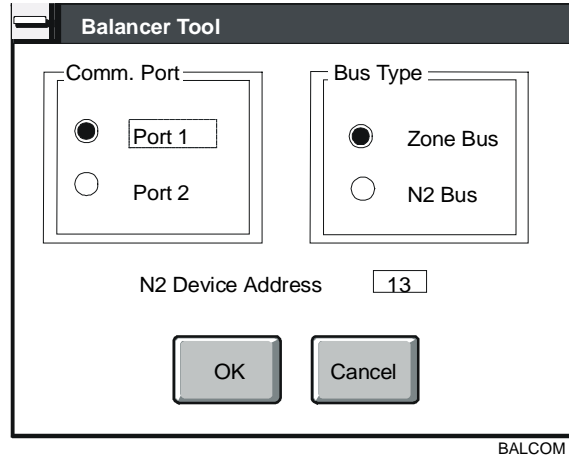

Figure 15-21: Balancer Communications Settings
1. On the Action menu, select VMA Balancer Tool. HVAC PRO software displays a prompt to verify communications settings as shown in Figure 15-21. (If you are in the Commission mode, the communication dialog box is not shown.)